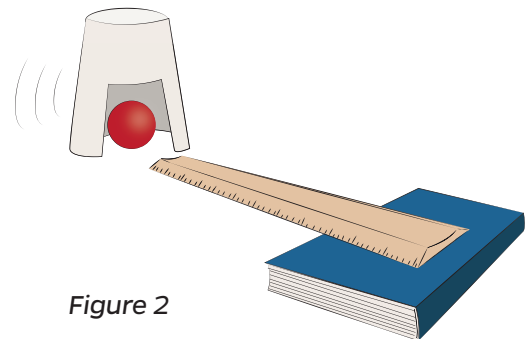

Figure 2
6. Release the marble and observe the collision between the marble and the cup (Figure 2).